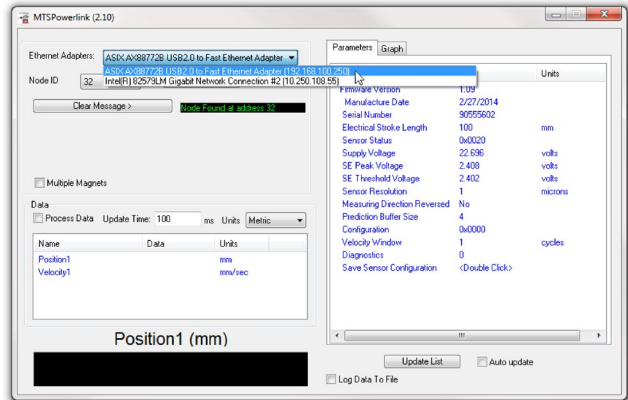

Fig. 51: Choose ethernet adapter
1. Start the MTS Powerlink software (download at www.mtssensors.com). Choose the correct ethernet adapter from the drop-down menu (Fig. 51).